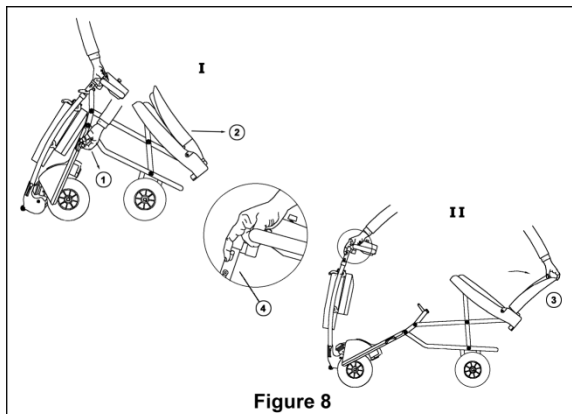

Figure 8
Step 1: Pull on the frame lock pin ring (Fig. 8/1) to release platform and rest front wheels on floor.
Step 2: Pull the seat backrest and lift it upright. (Fig. 8/2)
Step 3: Grasp top of seat backrest (Fig. 8/3) and pull column lock triggers (Fig. 8/4) to release column from platform. Pull outwards to unfold *EasyTravel Elite*